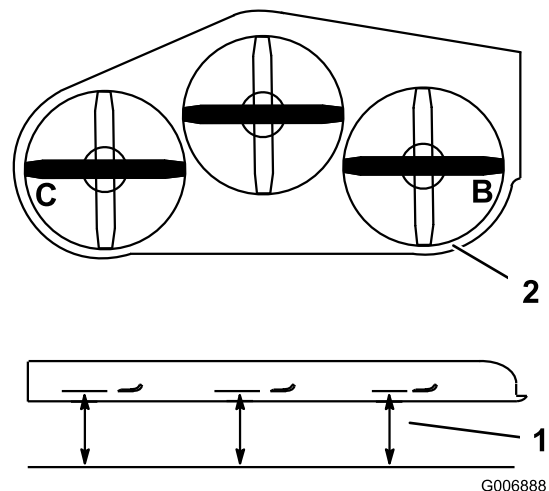

Figure 82
1. Position the **right** blade side-to-side (Figure 82).
- Measure the right blade at the **B** location, from a level surface to the cutting edge of the blade tip (Figure 82).
- Position the left blade side-to-side (Figure 82).
- Measure the left blade at the **C** location (Figure 82), from a level surface to the cutting edge of the blade tip.